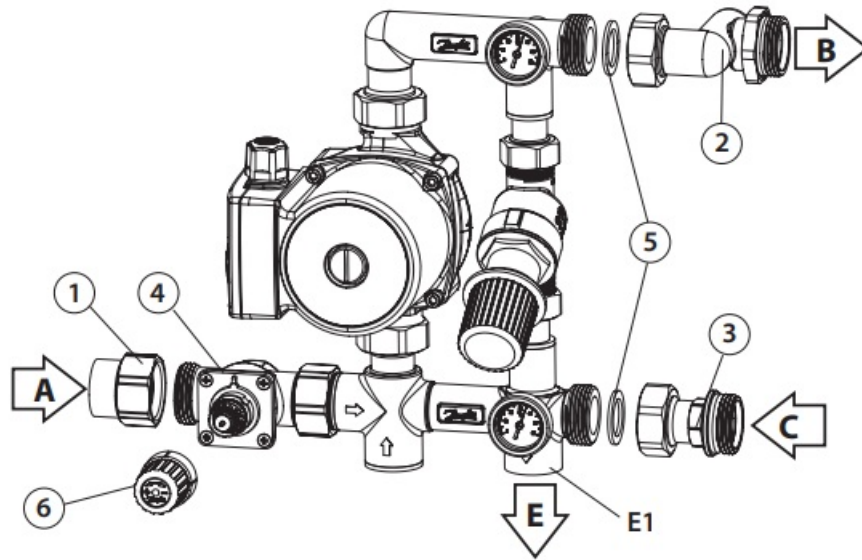
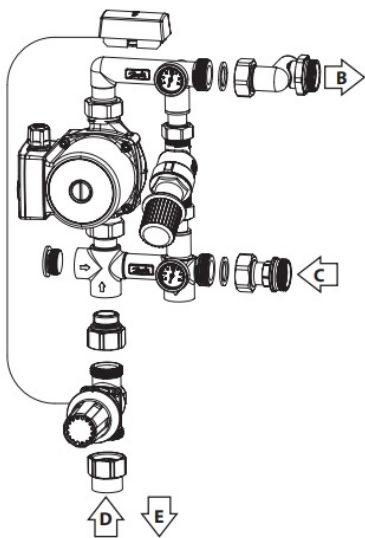
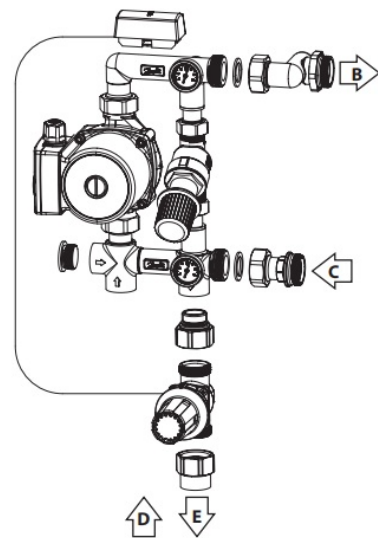
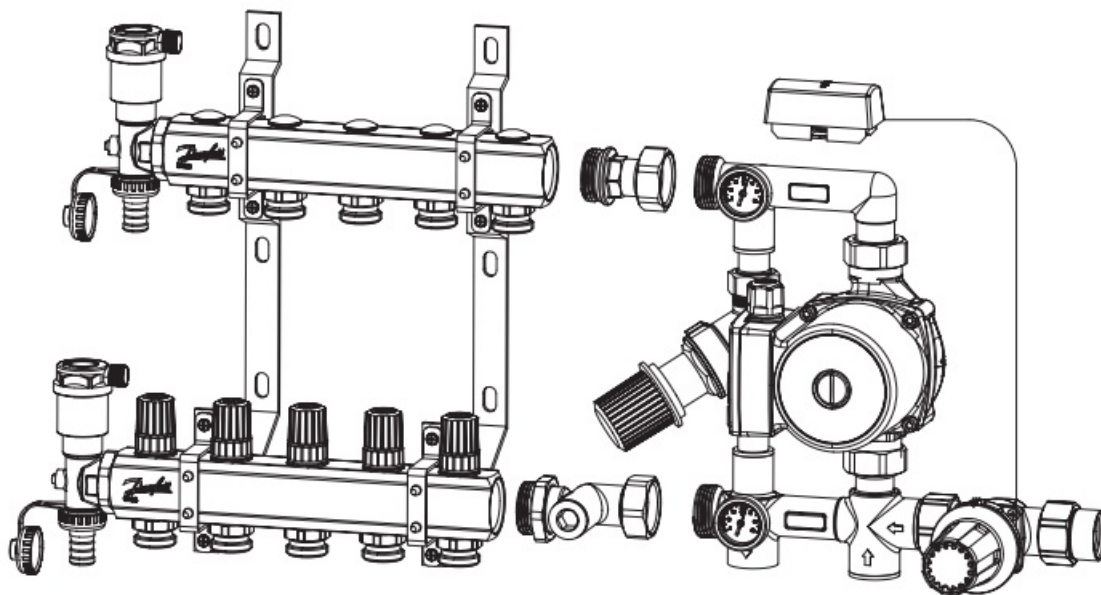

Fig 2.
Fig. 4: RA-C Flow of Primary Side Install Vertically
Fig.5: RA-C Return of Primary Side Install
Fig. 6
1. Remove the union nuts 1, 2 and 3 and rubber gasket 5 from mixing shunt which to be used in steps below, as shown in Fig. 2.
2. Pre-mounted union nut 1 for connection to the primary side supply pipe . The union nut 1 to control valve 4 must be tightened with a torque of at least 85 Nm without any sealing materials, as shown in Fig. 2.
3. Pre-mounted union nuts 2 and 3 for connection to the secondary side pipe or directly on a Danfoss manifold. The union nuts 2 and 3 to mixing shunt must be tightened with a torque of 15 to 25 Nm with enclosed rubber gasket, as shown in Fig. 2.
5. Remove the blue cap 6, as shown in Fig. 2.
Refer to Fig. 2, Fig. 4, Fig. 5, Fig. 6 structure, can choose to install the manifold in the mixing shunt left.